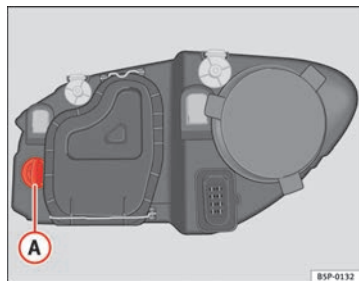

Fig. 185 Turn signal lamps
- Rotate the lamp holder ⇒ fig. 185 **A** to the left and pull.